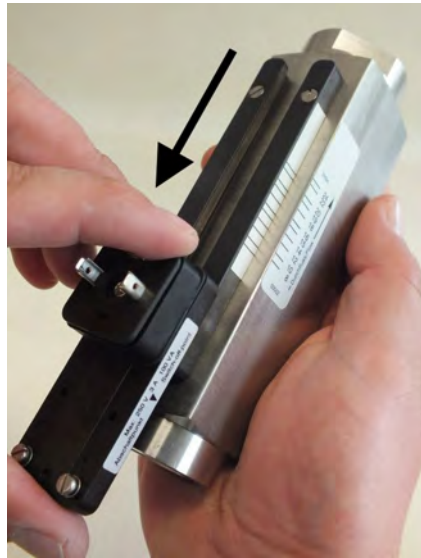

Fig. 55: Remove the switch contact from guide rails
4. ➤ Slide the switch contact from the guide rail (Fig. 55)